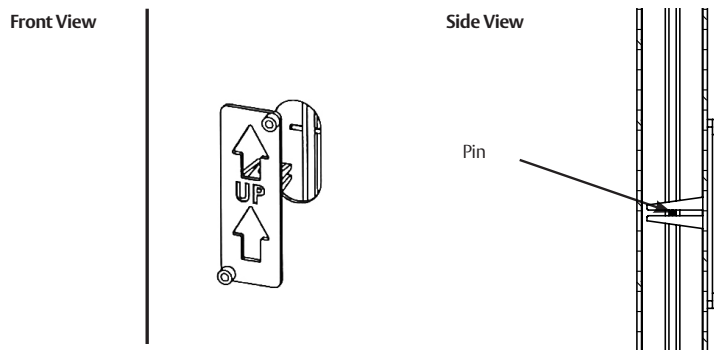

Figure 29
2. Place plastic field template on pin in top rod through oval cut-out in door. (Figure 29)